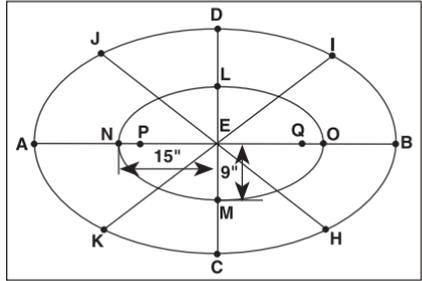

Fig. 4
4. Find midpoints H, I, J, and K of each quarter of the ellipse with a pair of dividers. Locate points L, M, N, and O midway on lines ED, EC, EA, and EB. Use the length of line EO to mark points P and Q by measuring from O and draw the small ellipse (Fig. 4).